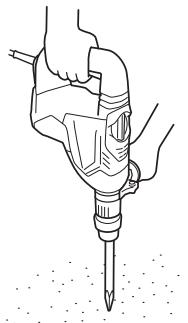

Fig. 6
- How to chisel or demolish (Fig. 6)